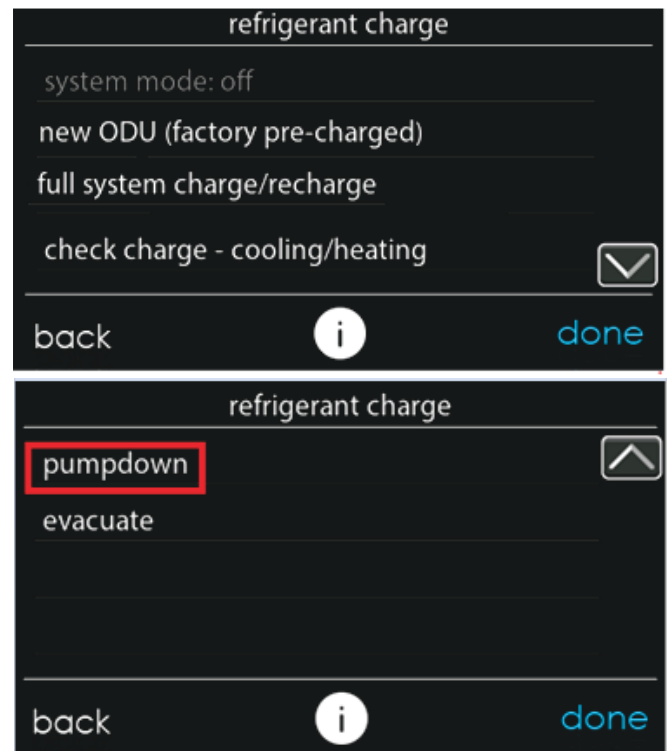

Fig. 24 – Pump Down and Evacuation Selection
2. In the “installation and service” menu of the Ion™ Black System Control (see Fig. 12), go to “refrigerant charging” and then “pump down” (see Fig. 13 and Fig. 24).